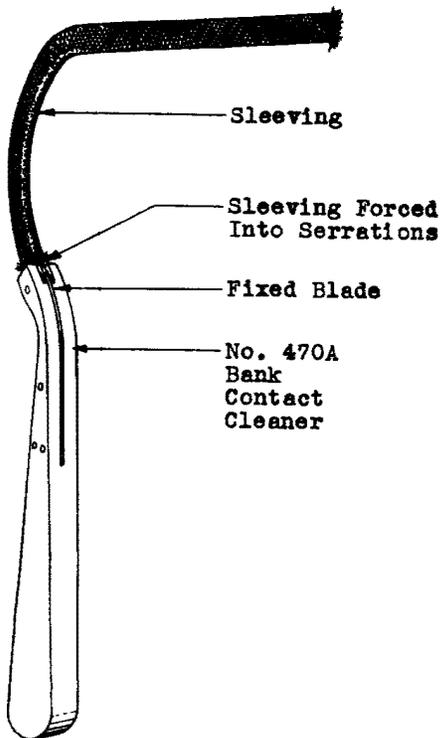
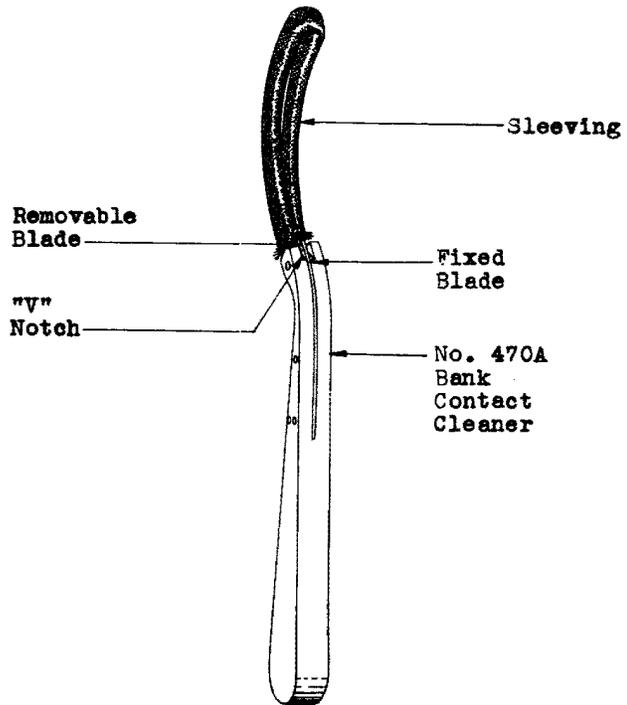

Fig. 2 - New Sleeving Over Fixed Blade
Fig. 3 - Removable Blade of No. 470A Bank Contact Cleaner Inserted in "V" Notch
3.02 Cut off a portion of clean sleeving approximately 6-1/4" long. Hold the handle in one hand and push the clean sleeving over the fixed blade and down against the handle until a slight bunching occurs. Then pull the free end of the sleeving until it is stretched tightly over the blade and forced into the serrations as shown in Fig. 2. Force the unnotched end of the removable blade into the free end of the sleeving until the removable blade comes in contact with the end of the fixed blade. Under this condition the sleeving will reach the "v" notch at the end of the blade. Force the sleeving into the serrations. Fold the removable blade back against the fixed blade and insert the blade over the notch in the handle as shown in Fig. 3.